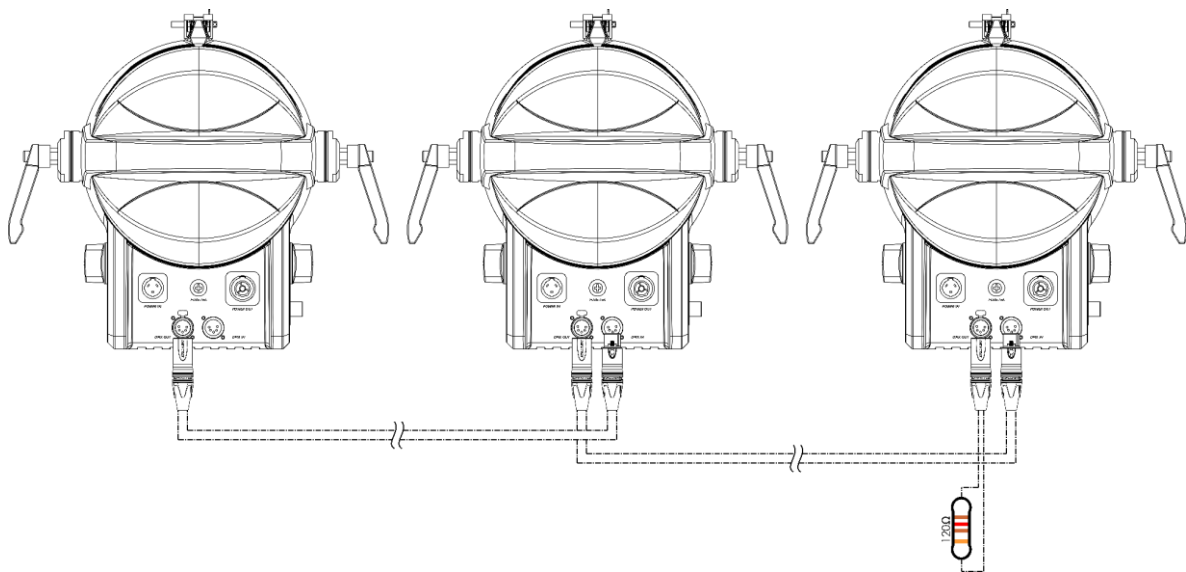

Fig. 13
- 02) Repeat step 1 to connect all devices as shown in Fig. 13.